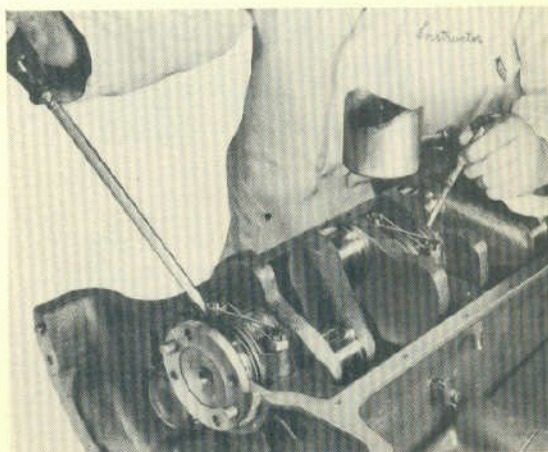

Fig. 3
Step 3—Check the crankshaft for end play as shown in Figure 3. End play should be from .002 to .006 with a wear limit of .008.